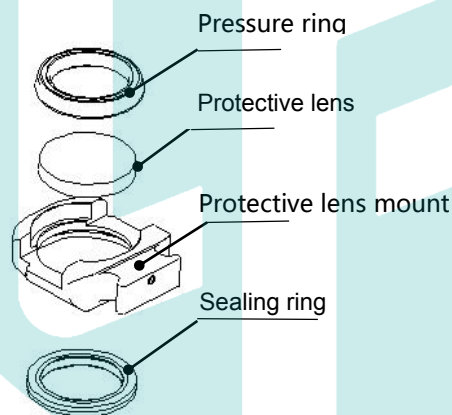

Fig 6.2 - Protective lens mount structure
- As shown in Figure 6.2, open the buckle, open the cover of protective lens, pinch the two sides of the drawer-type lens holder and pull out the base of protective lens;